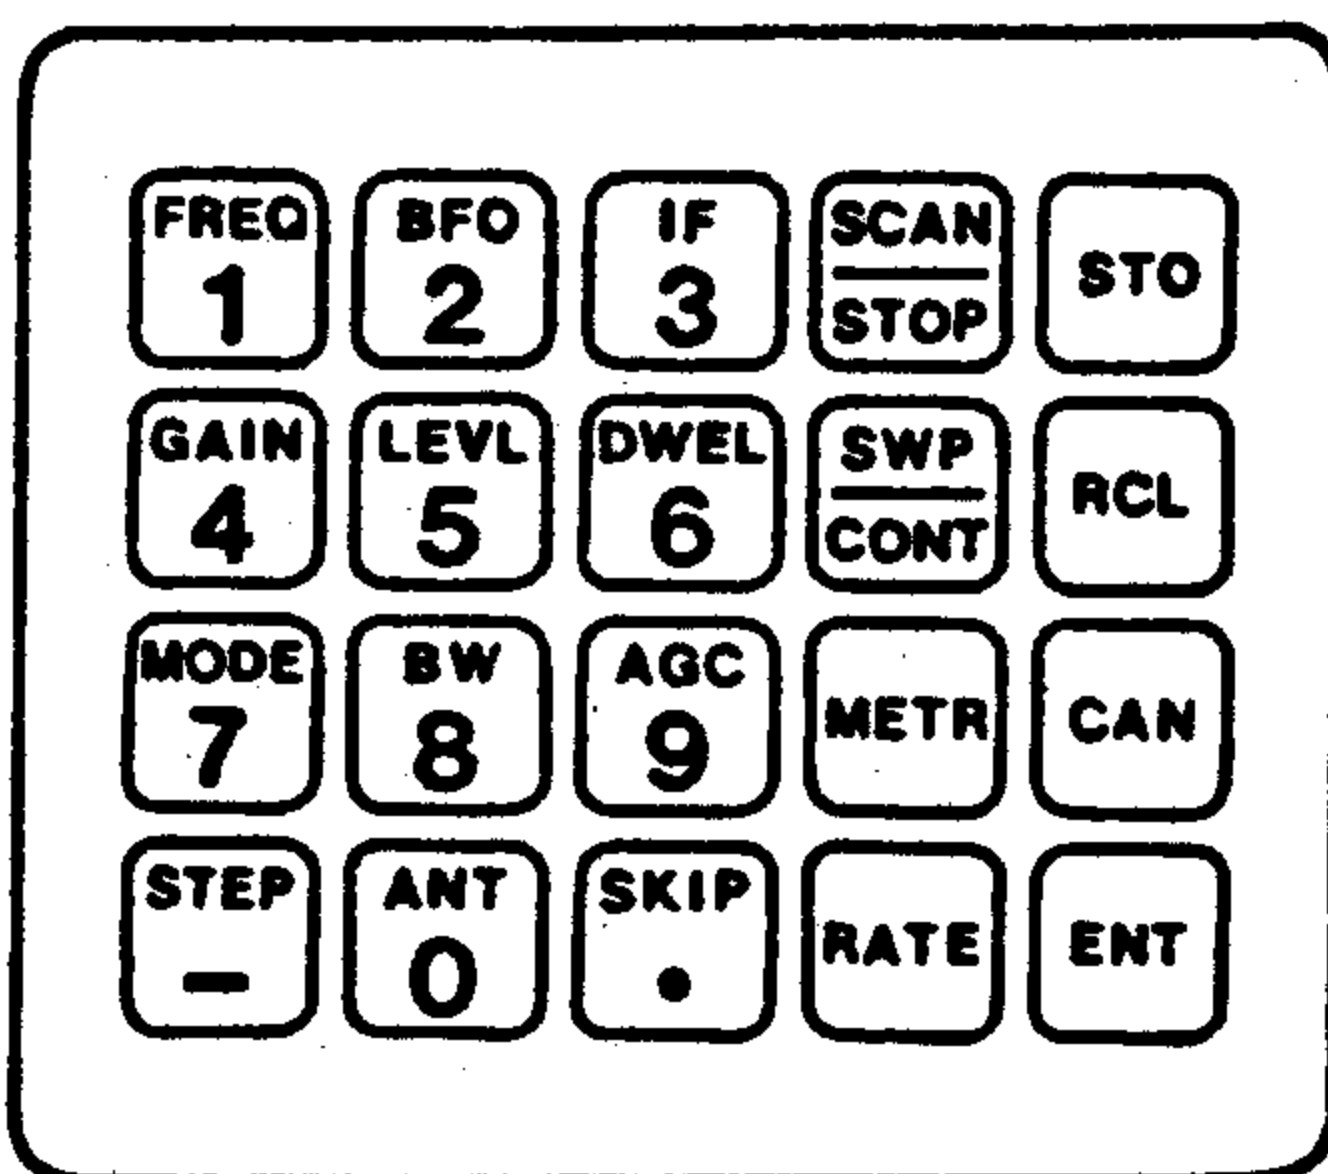
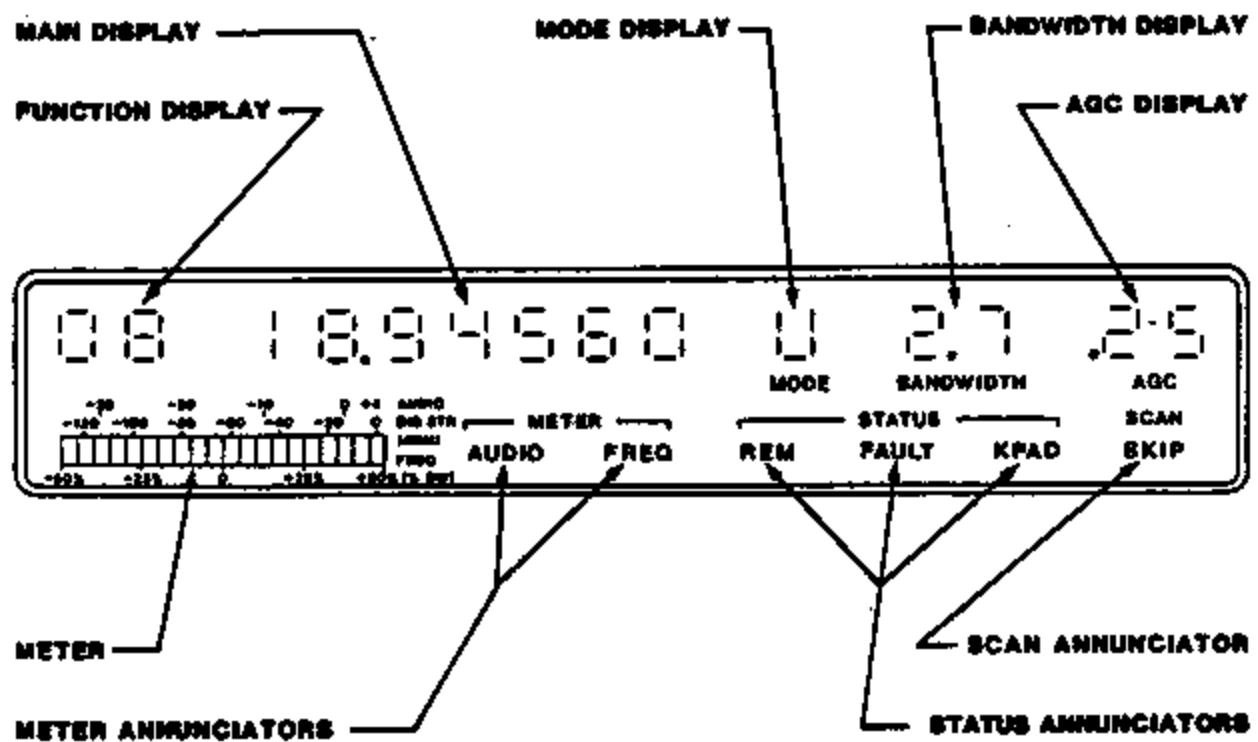

Figure 3-1. Keypad.
Figure 3-2. Front Panel Display.
**3-2 LOCAL OPERATION.** Local (manual) operation is performed using the front panel controls and displays. Figure 1-1 and table 3-1 shows/lists the front panel controls and functions; figure 3-1 and table 3-2 shows/lists the keypad control functions; and figure 3-2 and table 3-3 shows/lists the displays and functions.